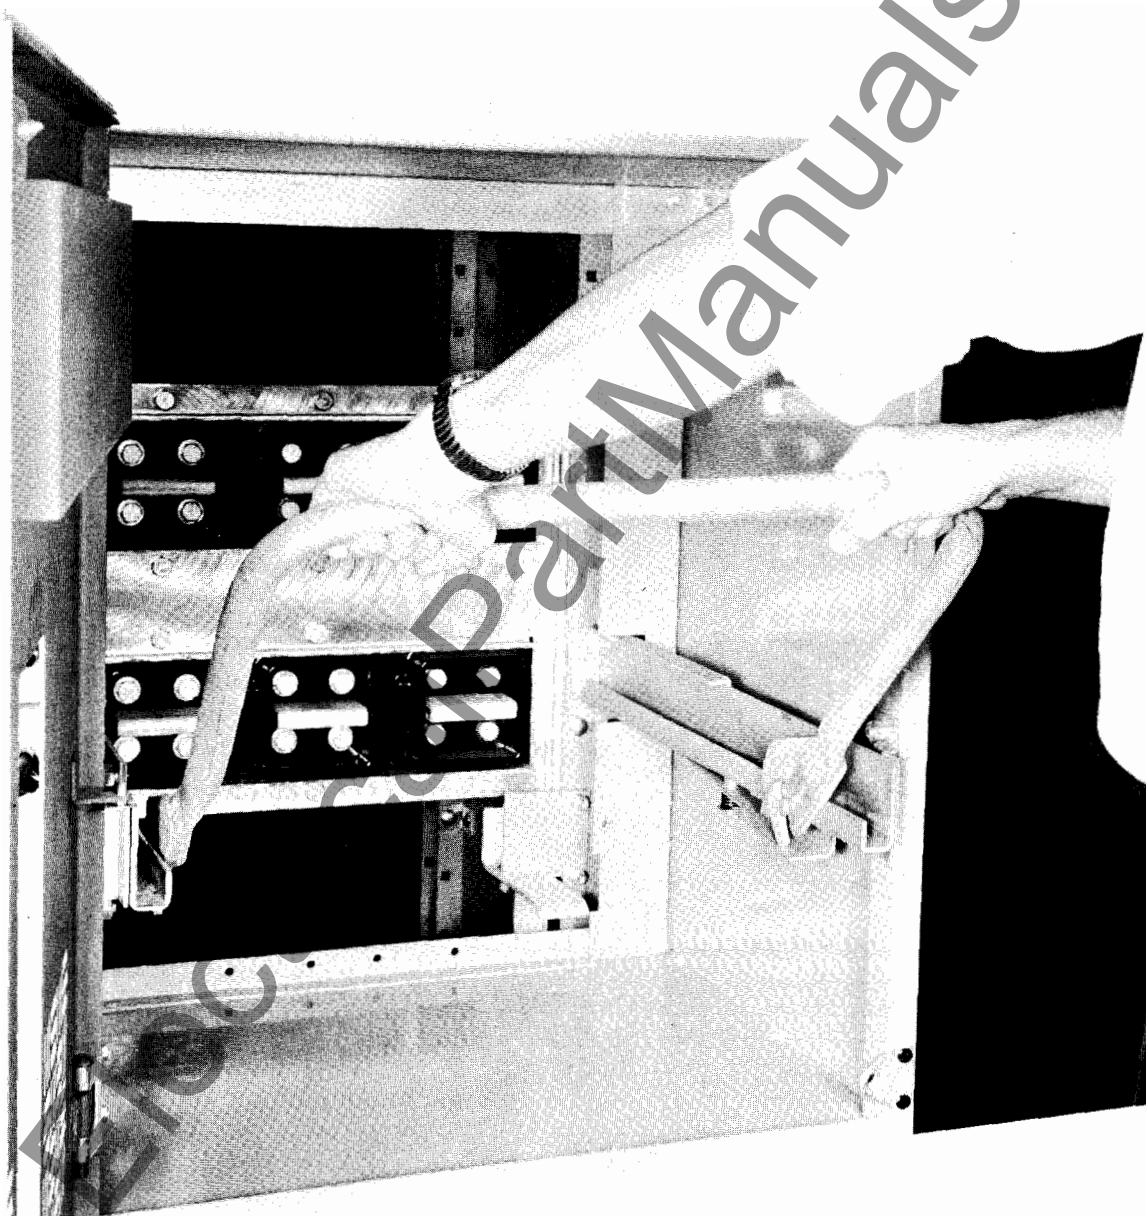

FIG. 2 - Type DB-50 Compartment Showing Automatic Rail Latch Released by Levering Device.
2. Type DB-50 and type DB-25 compartments have a latch on the right hand rail which secures the circuit breaker in the connected position. This latch is automatically released by inserting the levering device into the compartment preparatory to withdrawing the circuit breaker. (See page 11 of I.B. 32-100-1 for operation of levering device). Fig. 2 for type DB-50 and Fig. 3 for type DB-25 compartments show the levering device in position for moving the circuit breaker in or out of connected position and illustrate the manner in which the latch is released. (The circuit breaker element has been omitted in Fig. 2 and Fig. 3 to permit a better view of latch details).